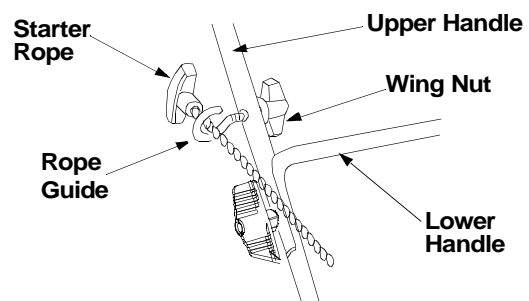

Figure 4
- If not already, move rope guide to the first hole above the lower handle on right side. The wing nut loosens and secures the rope guide to handle. See Figure 4.